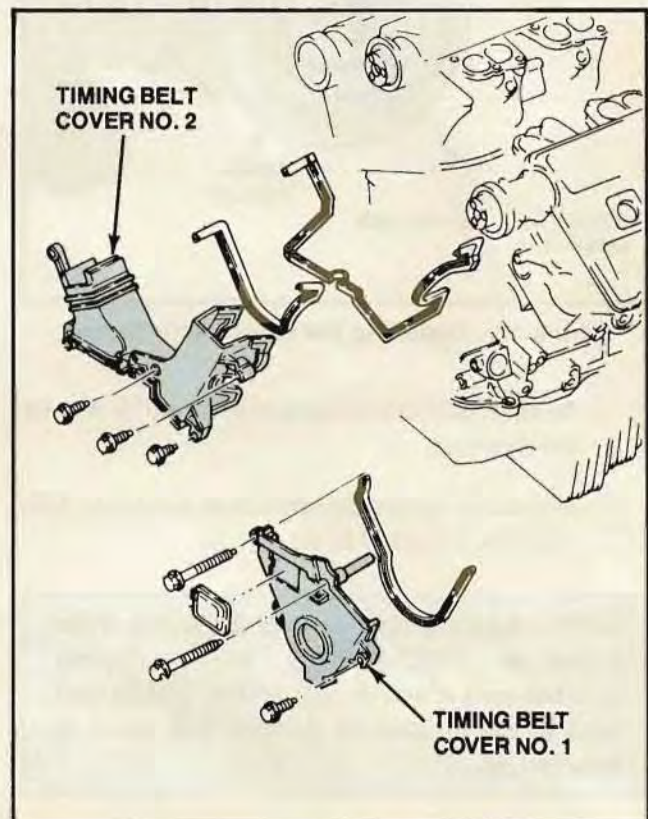

Figure 128. Installing Timing Belt Covers Nos. 1 and 2
6. Install timing belt covers 2 and 1 (Fig. 128).